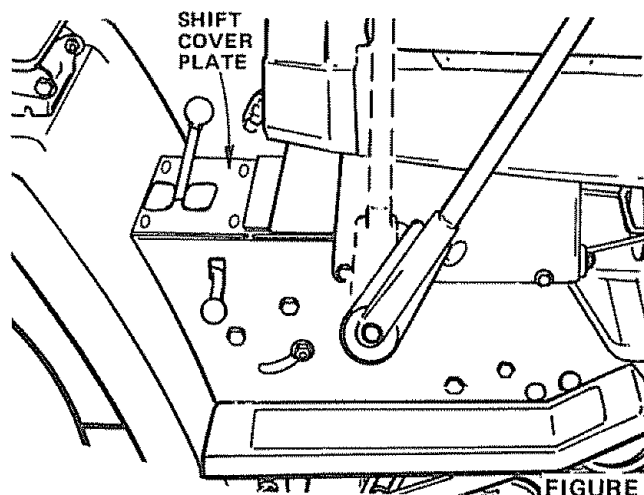

FIGURE 48
- Remove (4) Hex Washer Head Tapping Screws from Shift Cover Plate (Fig. 48), located on top of tractor frame. Remove the Cover Plate.
- a. To tighten Belt, remove (4) Hex Washer Head Tapping Screws from Shift Cover Plate (Fig. 48) located on top of tractor frame. Remove the Cover Plate.